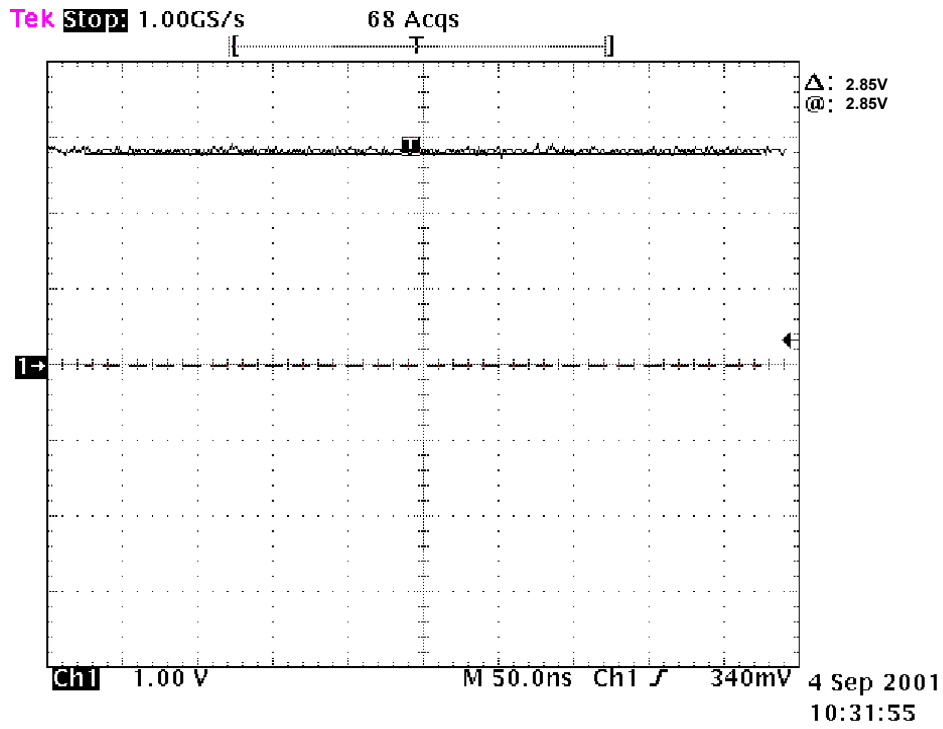

Figure 3-12. Regulator Output (RF2V85)
2. RF2V8 (see Fig. 3-12)
(Refer to Figure 3-12~21)